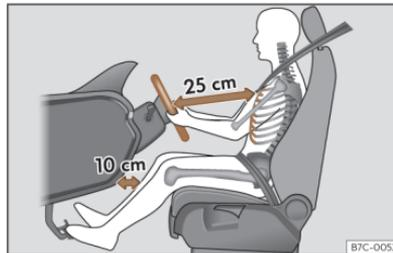

Fig. 31 The correct distance between the driver and the steering wheel must be at least 25 cm (10 inches).
- Adjust the steering wheel so that it is at a distance of at least 25 cm (10 inches) from the sternum >>> **Fig. 31** and can hold it with both hands on the sides, on the outside, with the arms slightly flexed.